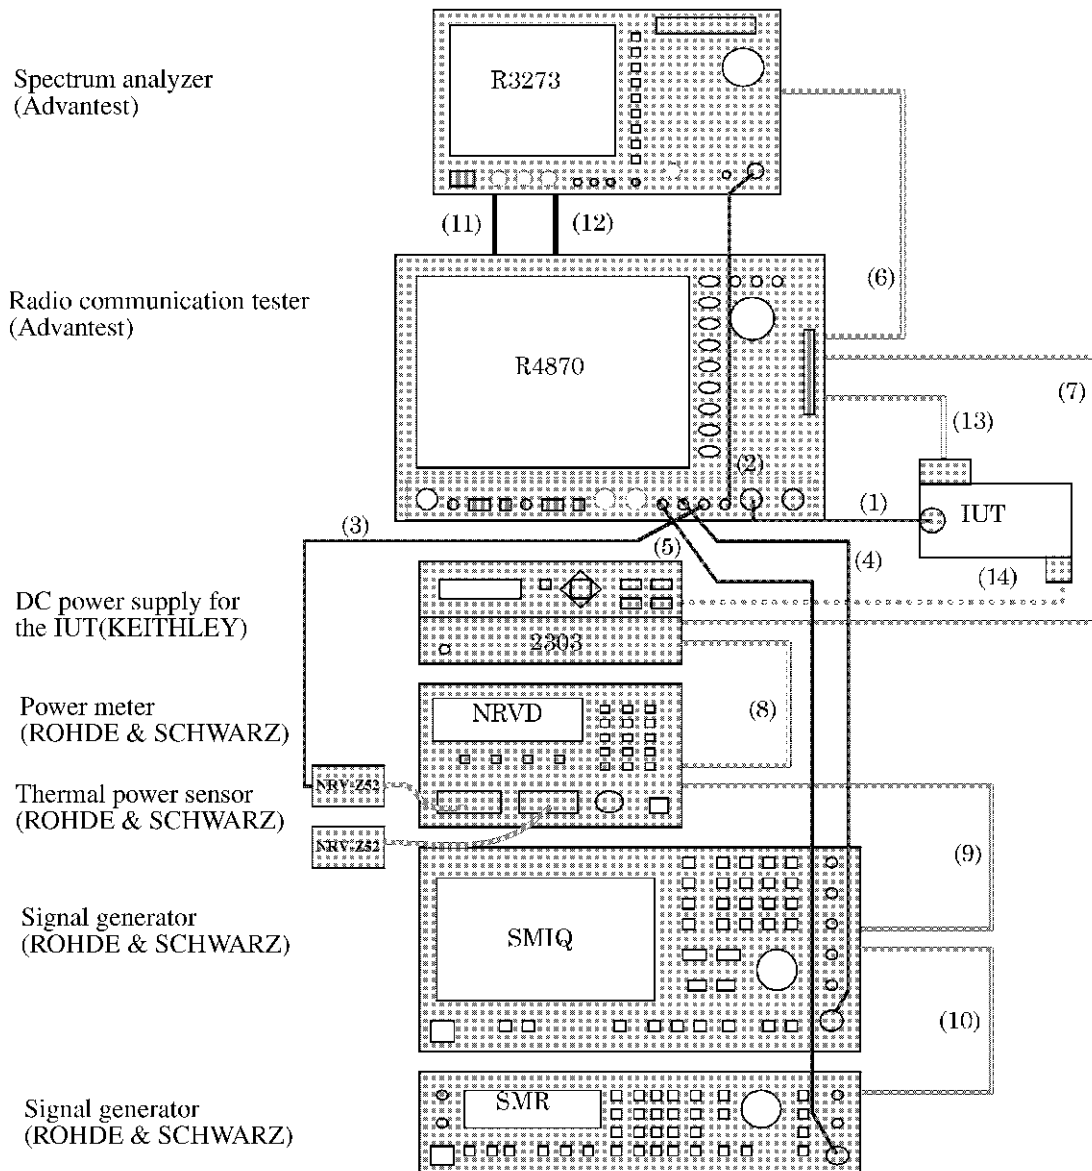

Figure 1-1 Test System Connection Diagram
Connections between system devices are shown in Figure 1-1. For cable numbers, refer to Section 1.3.2, "List of Connections between Devices."
(5)	R4870 (F) INTERFERE 1	↔	SMR (F)	RF 50 Ω
(6)	R4870 (R) CONTROLLER	↔	R3273 (R)	GPIB
(7)	R4870 (R) CONTROLLER	↔	2303 (R)	IEEE-488
(8)	2303 (R) IEEE-488	↔	NRVD (R)	IEEE-488
(9)	NRVD (R) IEEE-488	↔	SMIQ (R)	IEEE-488
(10)	SMIQ (R) IEEE-488	↔	SMR (R)	IEEE-488
(11)	R4870 (R) TRIG OUT	↔	R3273 (R)	EXT TRIG
(12)	R4870 (R) 10MHz REF	↔	R3273 (R)	10MHz REF IN
(13)	R4870 (R) RS-232	↔	IUT	HCI PORT
(14)	2303 (R) OUTPUT	↔	IUT	DC POWER PORT
*1: Numbers correspond to those in Figure 1-1.
*2: (F) means the front side of the device and (R) means the rear side of the device.
(5)	SMA-SMA cable	30 MHz to 13 GHz
(6)	GPIB cable
(7)	GPIB cable
(8)	GPIB cable
(9)	GPIB cable
(10)	GPIB cable
(11)	BNC-BNC cable	DC to 10 MHz
(12)	BNC-BNC cable	10 MHz
(13)	RS-232 cable	DSUB 9 pin
(14)	Power cable for the IUT
4. Check the connection between the R4870 and each device in accordance with Figure 1-1.